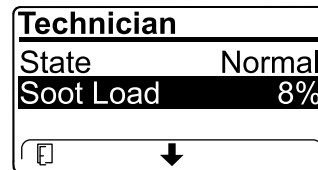

Figure 10
- View the soot load which is measured as the percentage of soot in the DPF (Figure 10); refer to the soot-load table.